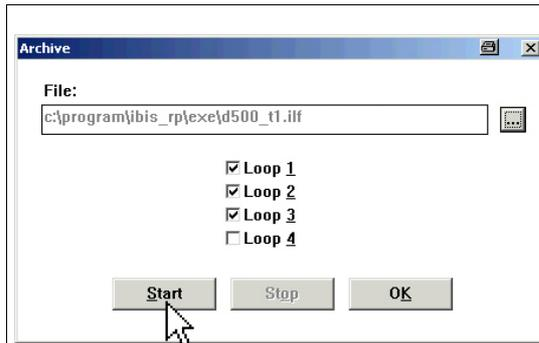
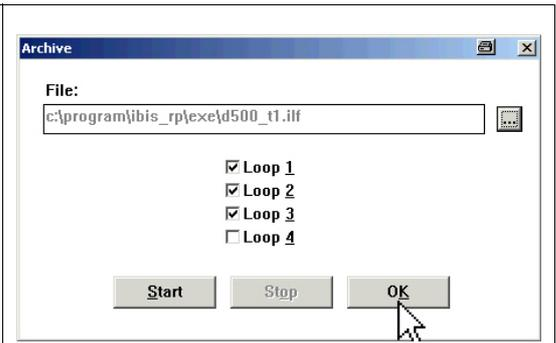

Fig. 2-6
Fig. 2-7
- 5 To start the archiving with → **[Start]** and with → **[OK]** you close the dialog, s. Fig. 2-6. and Fig. 2-7. To pause or stop the recording → **[Stop]** and to close the dialog again with → **[OK]** if necessary.